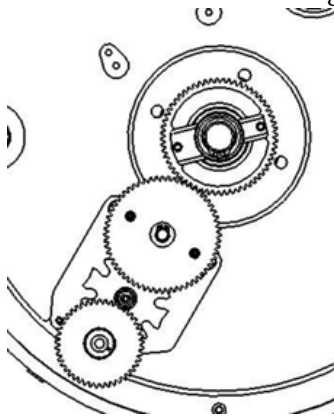

Figure 28 Setting position
- 1) When installing the switch insert, make sure its gear at the bottom and the tap selector are in the setting position (Figure 28).